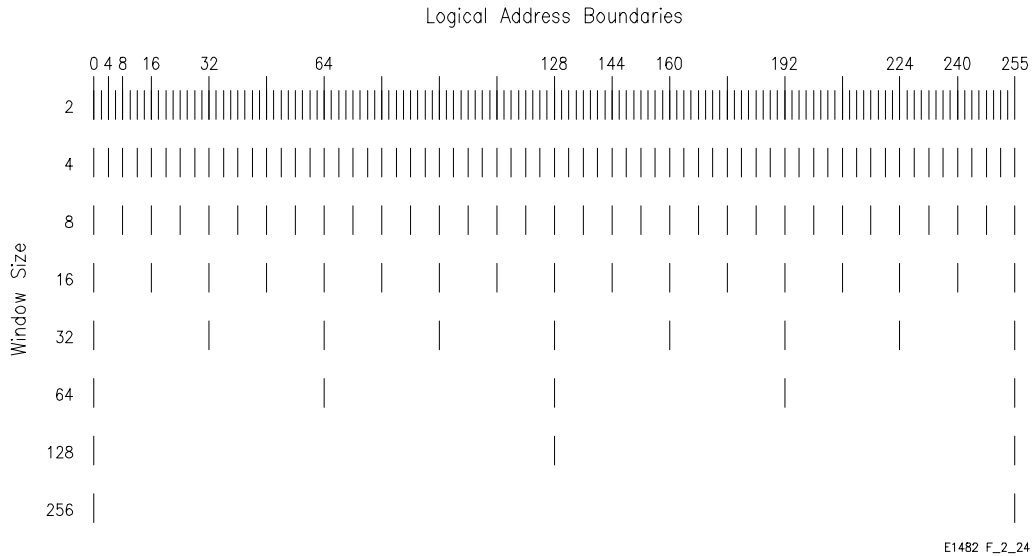

Figure 2-24. Window Size versus Starting Addresses.
- A multiple mainframe VXIbus system must partition the VXIbus address space (decimal 0 to 255) between mainframes. The partitioning is done by the VXIbus Resource Manager (RM) based on addresses you set. The resource manager you use must be able to support MXIbus operation. The Resource Manager can be:
- A root mainframe must not include a device with logical address 128 or greater. Having the address 0 and 128 or greater in the same window would force a window of all 256 logical addresses because this is the only window that can contain these addresses (See Table 2-2 and Figure 2-24).
and Figure 2-24
Figure 2-24 and Table 2-2 both tabulate and illustrate window size and allowed starting addresses (logical address boundaries). The figure and table illustrate the rules described on the preceding page.